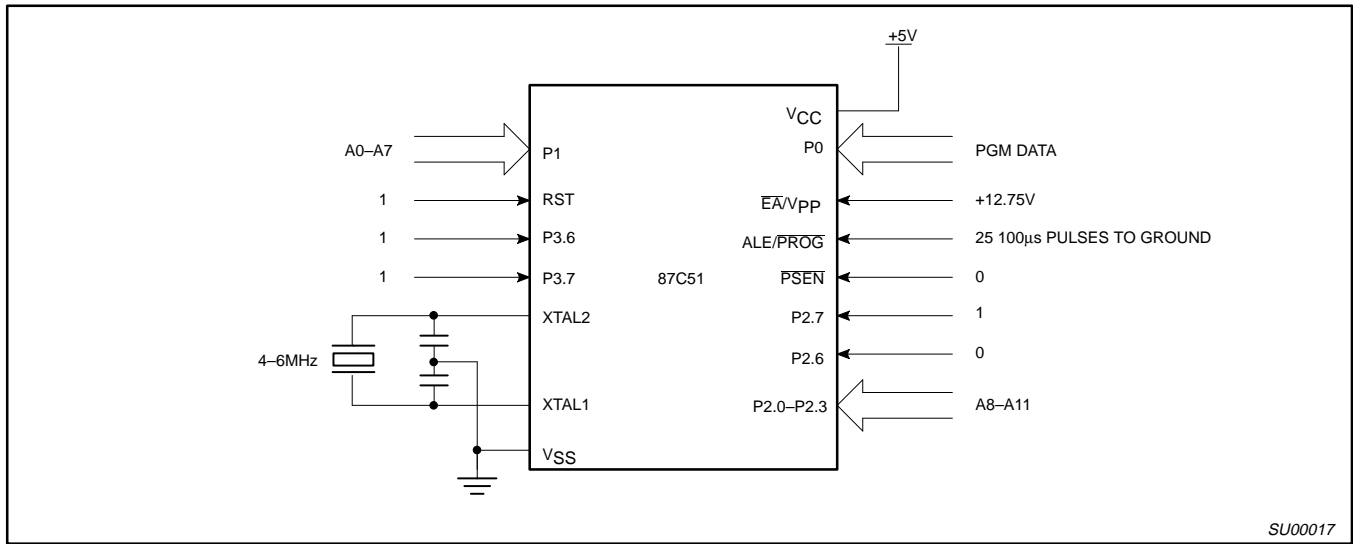
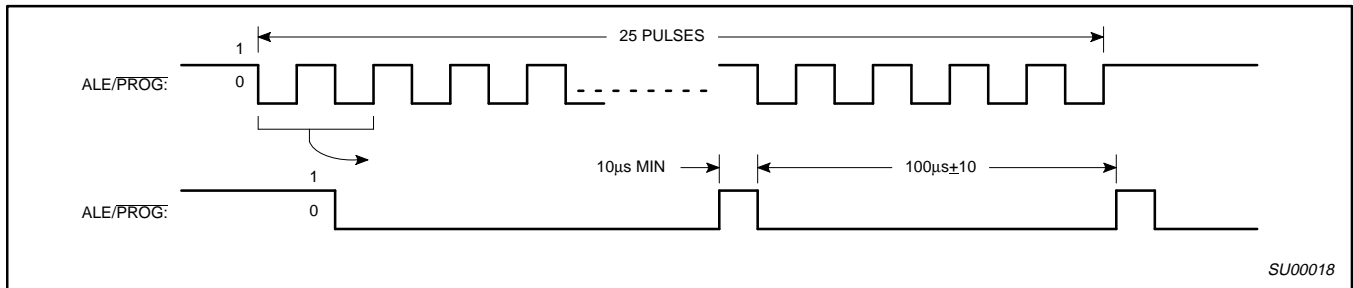
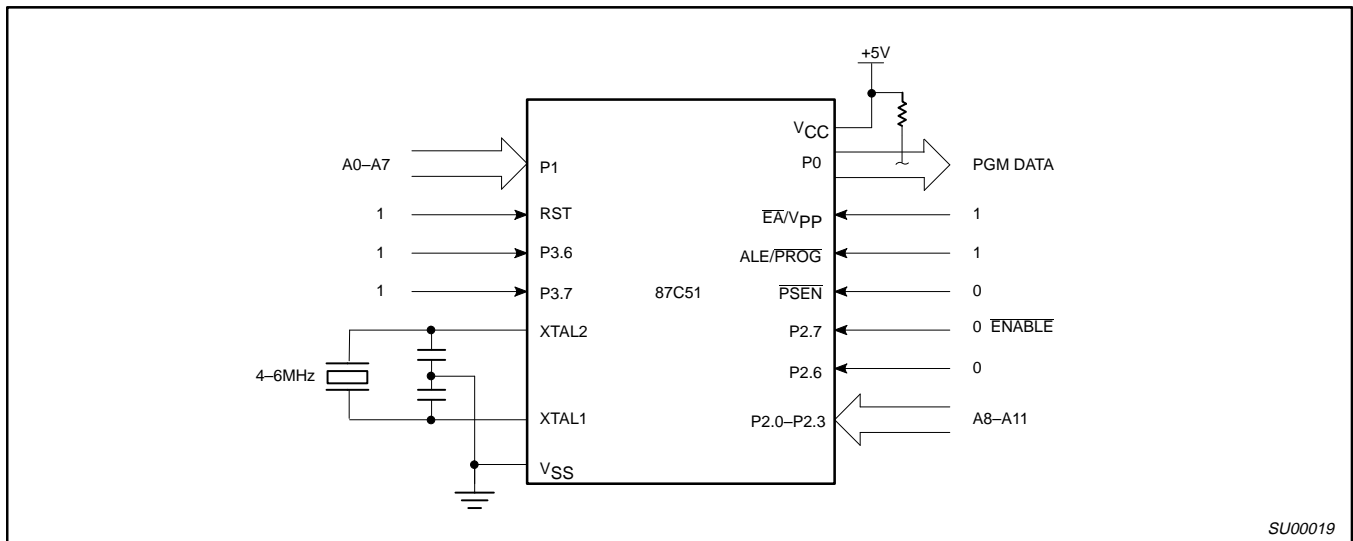

Figure 13. Programming Configuration
Figure 14. PROG Waveform
Figure 15. Program Verification
Table 3 shows the logic levels for reading the signature bytes, and for programming the program memory, the encryption table, and the security bits. The circuit configuration and waveforms for quick-pulse programming are shown in Figures 13 and 14. Figure 15 shows the circuit configuration for normal program memory verification.
The setup for microcontroller quick-pulse programming is shown in Figure 13. Note that the 87C51 is running with a 4 to 6MHz oscillator. The reason the oscillator needs to be running is that the device is executing internal address and program data transfers.
The address of the EPROM location to be programmed is applied to ports 1 and 2, as shown in Figure 13. The code byte to be programmed into that location is applied to port 0. RST, PSEN and pins of ports 2 and 3 specified in Table 3 are held at the 'Program Code Data' levels indicated in Table 3. The ALE/PROG is pulsed low 25 times as shown in Figure 14.
If security bit 2 has not been programmed, the on-chip program memory can be read out for program verification. The address of the program memory locations to be read is applied to ports 1 and 2 as shown in Figure 15. The other pins are held at the 'Verify Code Data' levels indicated in Table 3. The contents of the address location will be emitted on port 0. External pull-ups are required on port 0 for this operation.
* FOR PROGRAMMING VERIFICATION SEE FIGURE 13.
* FOR VERIFICATION CONDITIONS SEE FIGURE 15.